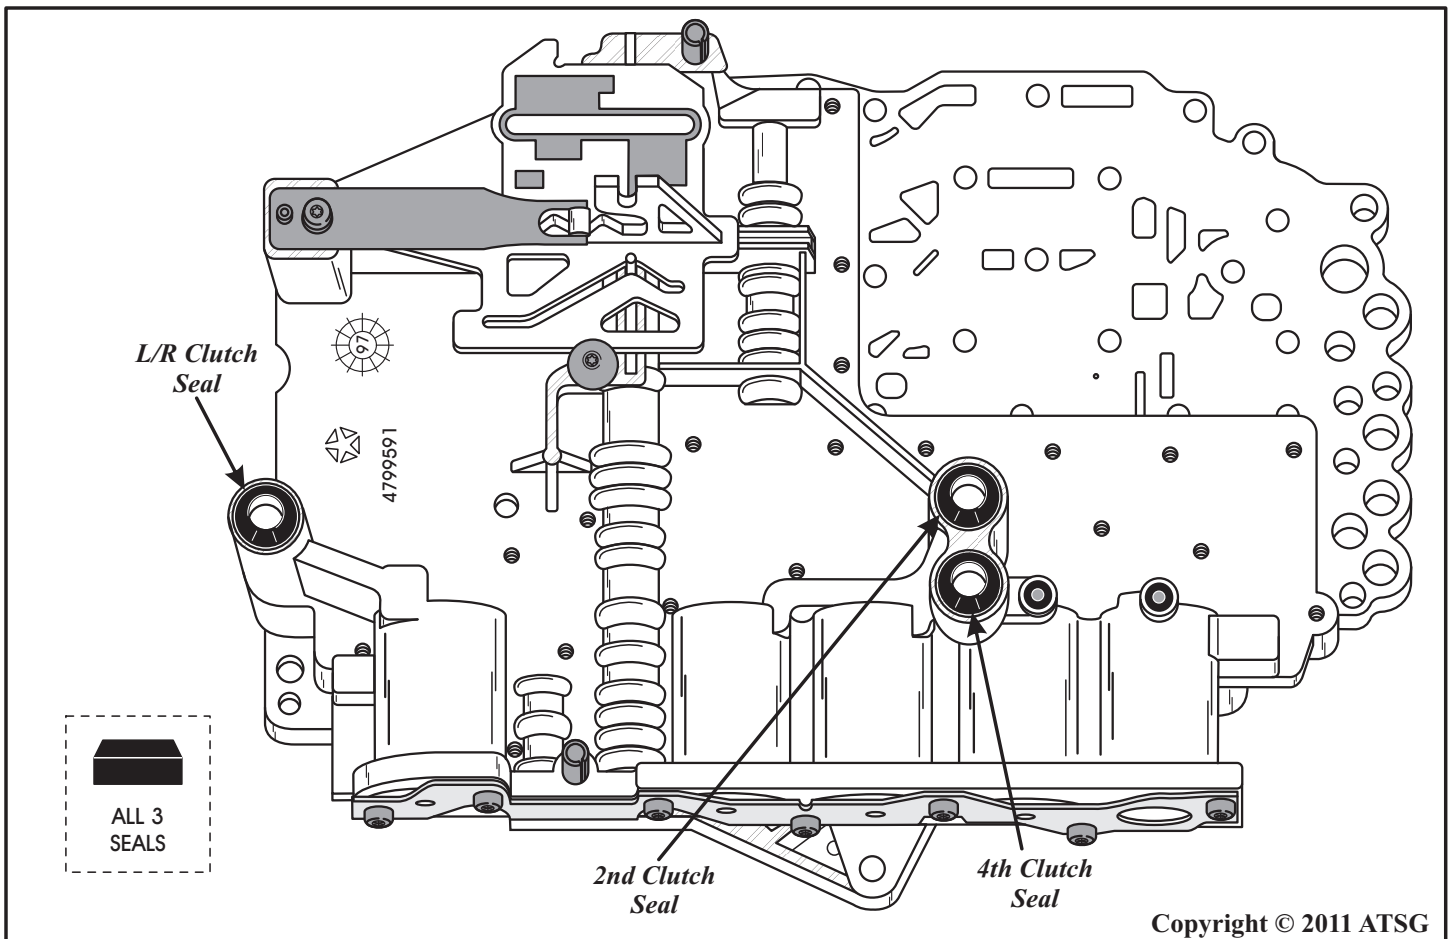

Figure 130
19. Install a new low/reverse seal into the valve body with the "house-top" facing up, as shown in Figure 130.
20. Install a new 2nd clutch seal into the valve body with the "house-top" facing up, as shown in Figure 130.
21. Install a new 4th clutch seal into the valve body with the "house-top" facing up, as shown in Figure 130.